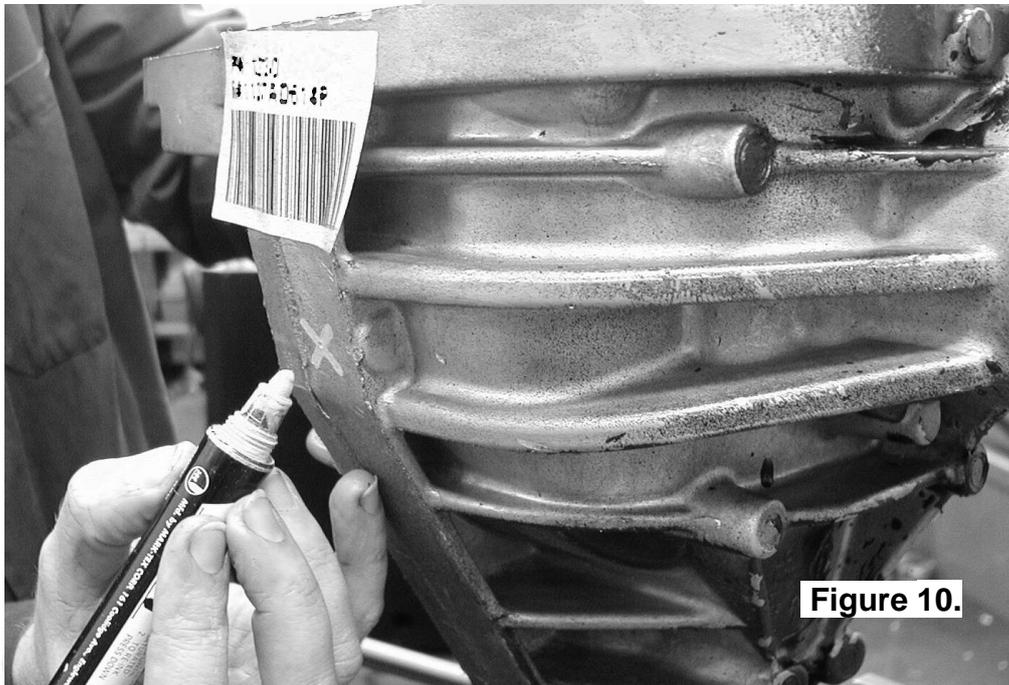

Figure 10.
- Mark a spot on the top of the outside shell of the differential housing on the thick section of the large external rib of the housing as shown in Figure 10.
- Mark a spot on the top of the outside shell of the differential housing that will be clear of the ring gear position once the seal housing tube has been installed. Figures 10. and 12. show how the tube will port through the differential housing.